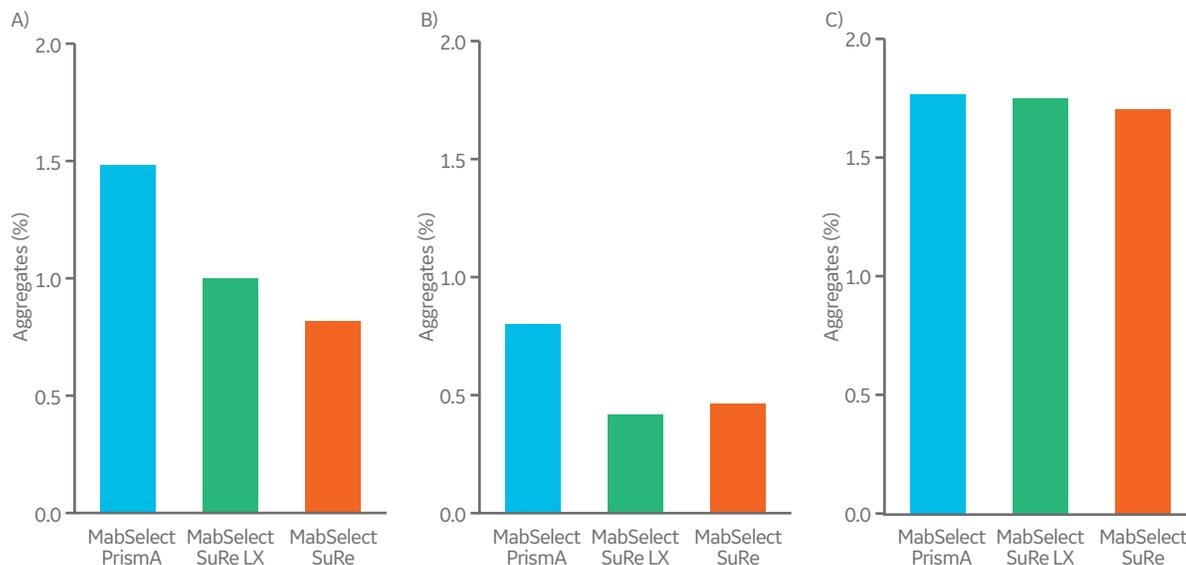

Fig 11. Aggregate content in eluate of (A) mAb1, (B) mAb2, and (C) mAb3. Bar graphs show remaining mAb aggregates (%) in elution pool.
MabSelect Prisma exhibits a significantly higher binding capacity than its predecessors MabSelect SuRe and MabSelect SuRe LX. This means, higher sample loads are allowed with the packed column and also higher mAb concentrations in the elution pool. Aggregate levels will depend on characteristics and concentration of the purified mAb, and pH for elution needs to be monitored and evaluated. Figure 11 shows a comparison between aggregate levels in eluate pool from MabSelect Prisma and its predecessor resins. The observed increased aggregate level for one of the mAbs is associated with the higher mAb load, however, in most cases the aggregate levels are similar independent of load (1).